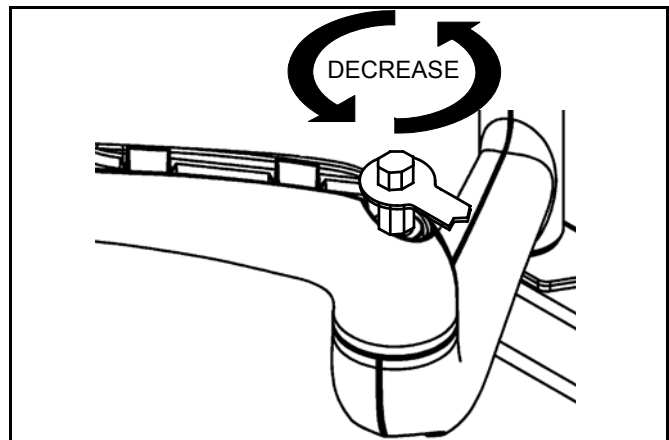
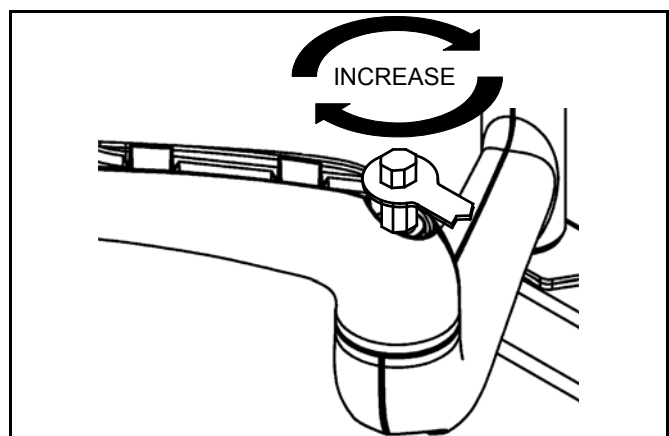

Figure 14
Figure 15
4. Using the adjustment wrench (D), turn adjustment bar (C) clockwise to increase swing arm tension or counterclockwise to reduce swing arm tension. (Small adjustments of 1/8 turn or less are typically all that is required to achieve desired tension.) (See Figure 14) and (See Figure 15)